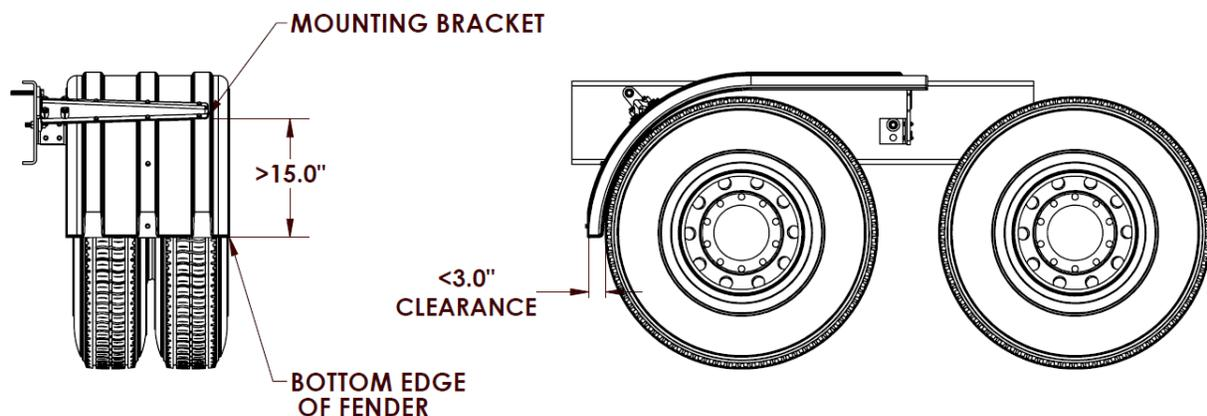

Figure 1 - Bracket Position and Clearance Example
- For cases where a fender mounting bracket is located more than 15" above the bottom edge of a Minimizer fender (as shown in Figure 1) an additional reinforcement may be required on the leading edge of the fender to protect the front fender section from interfering with a tire.